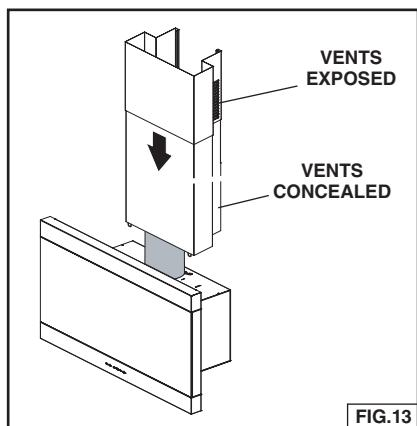

FIG.13
6. Install upper and lower decorative flues onto the range hood. Fig. 13.